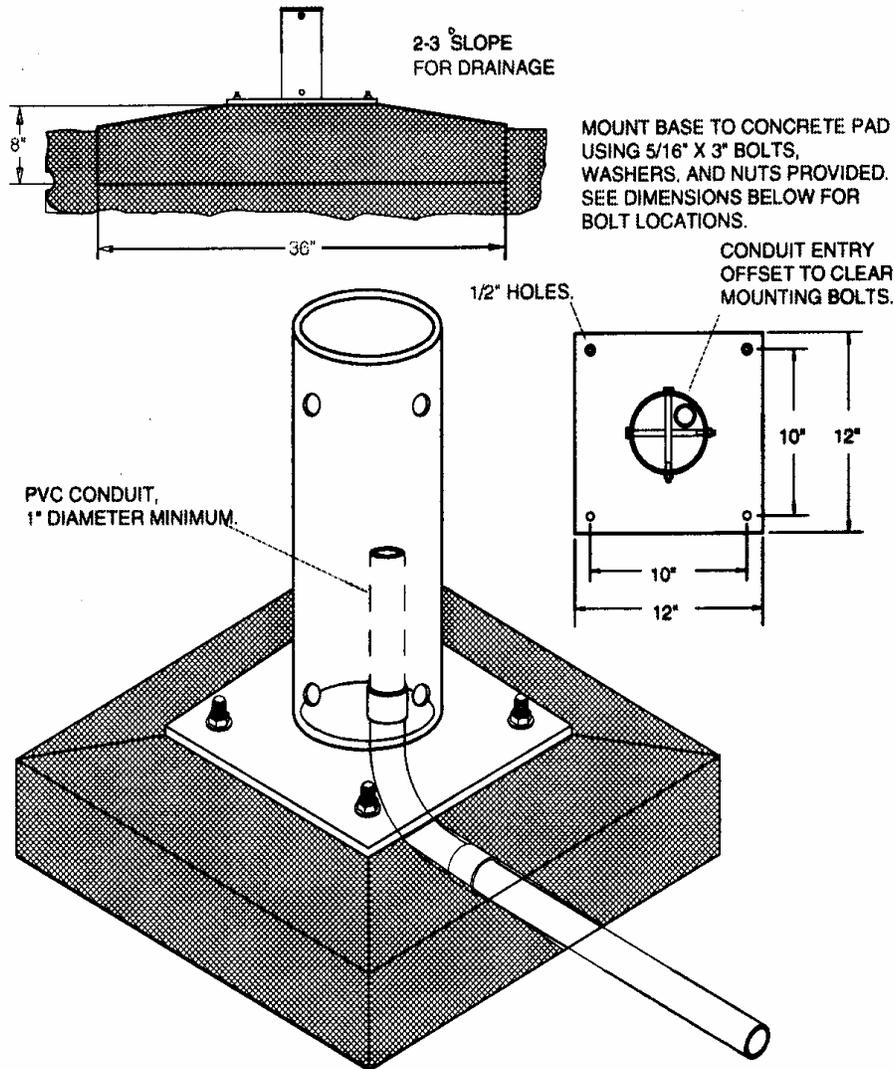

Figure 3: Tower Base Mounting
- Step 3** Attach the tower to the Weather Station mounting bracket using the 3/8 inch cross-bolts (see Figure 3: Tower Base Mounting).